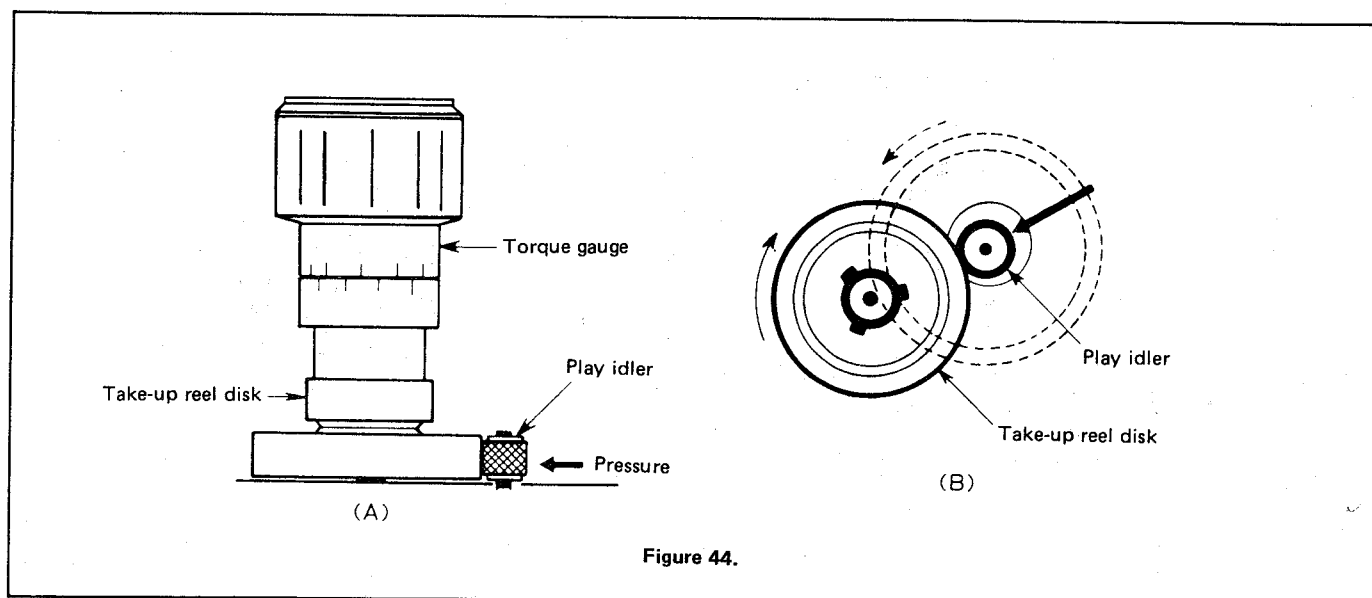

Figure 44.
2. Set a torque gauge on the take-up reel disk and push the play button getting the set in play mode. See Fig. 44-(A).
3. Slowly rotate the torque gauge in its wind-up direction so that both the reel disk and torque gauge's pointer will move at the same speed: see that the reading is then with 90 to 170 gr. cm (specified value). See Fig. 44-(B).
See Fig. 44-(B).